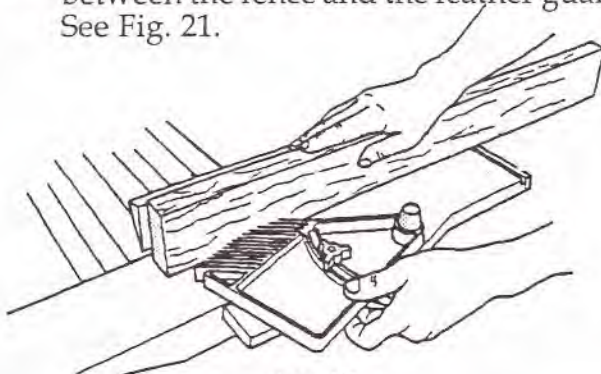

Fig. 21
1. Loosen the stop knob (15) on the stop pin (14).
2. Place the workpiece against the fence and between the fence and the feather guard. See Fig. 21.